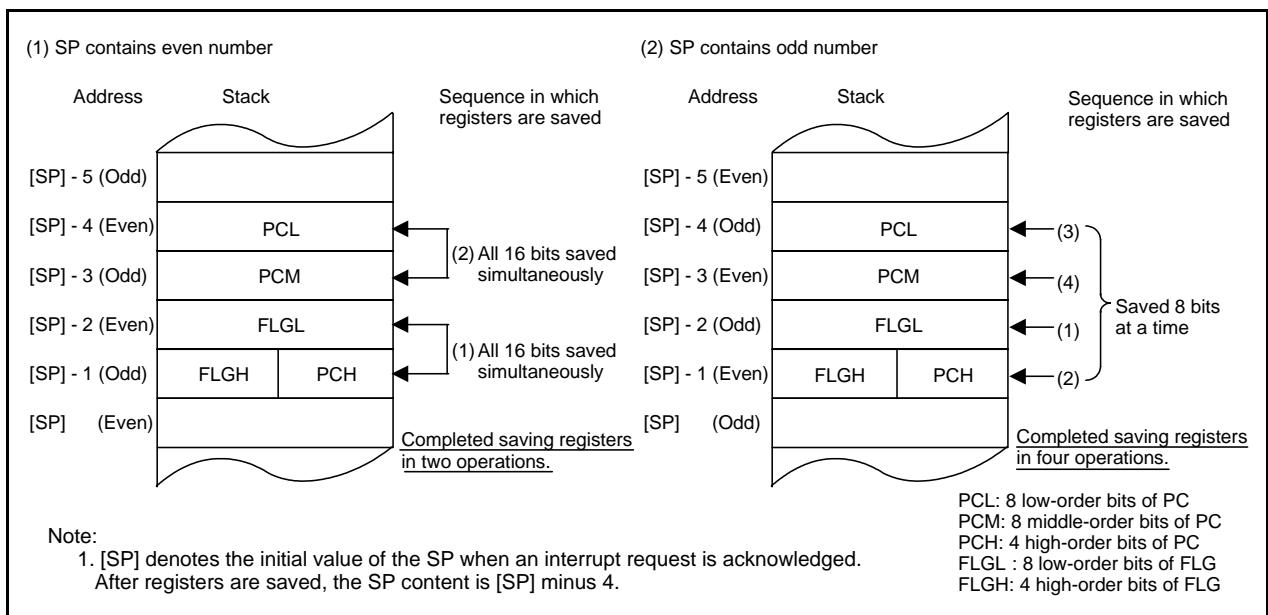

Figure 13.6 Register Save Operation
The register save operation carried out in the interrupt sequence is dependent on whether the SP (1), at the time of acceptance of an interrupt request, is even or odd. If the SP (1) is even, the FLG register and the PC are saved 16 bits at a time. If odd, they are saved in two steps, 8 bits at a time. Figure 13.6 shows the Register Save Operation.